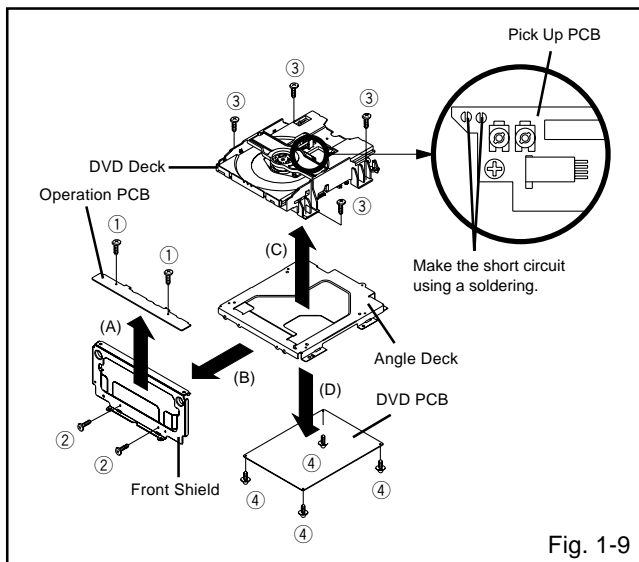

Fig. 1-9
1-9: OPERATION PCB/DVD PCB/DVD DECK (Refer to Fig. 1-9)
1. Make the short circuit on the position as shown **Fig. 1-9** using a soldering. If you remove the DVD Deck with no soldering, the Laser may be damaged.
2. Remove the 2 screws ①.
3. Remove the Operation PCB in the direction of arrow (A).
4. Remove the 2 screws ②.
5. Remove the Front Shield in the direction of arrow (B).